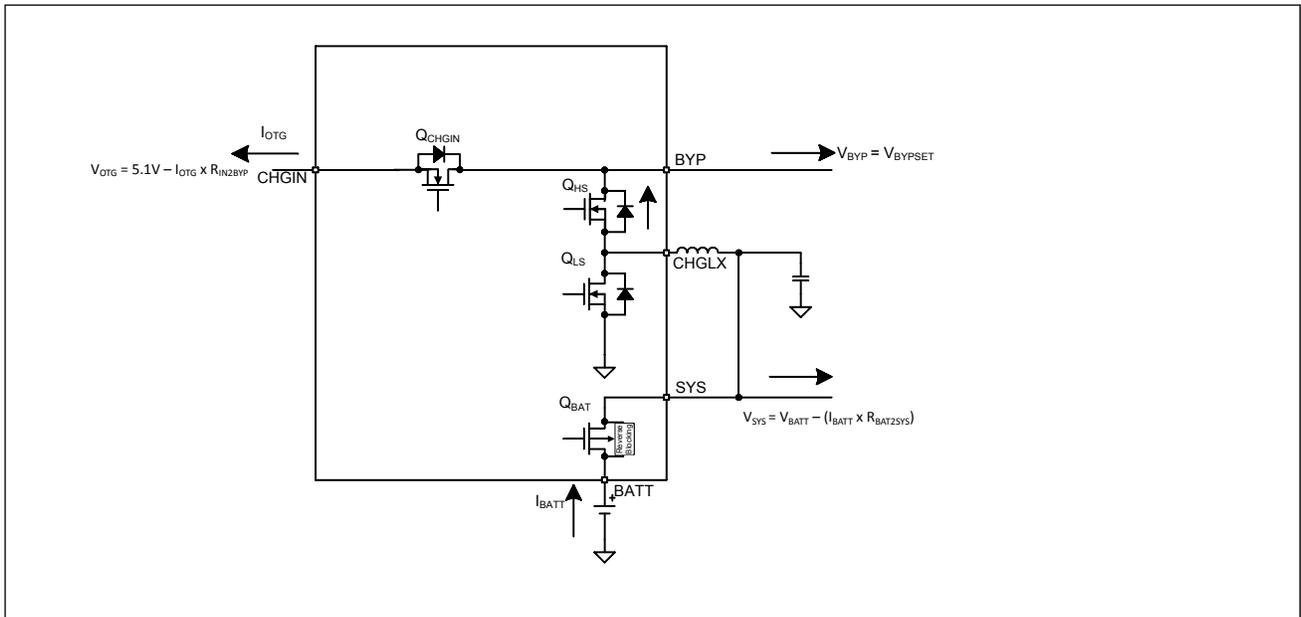

Figure 7. Battery-Boost (OTG)
4. BATTERY-BOOST (OTG), MODE = 0x0A: OTG is active ($Q_{CHGIN} = \text{on}$). Battery is connected to support SYS and OTG loads ($Q_{BAT} = \text{on}$) and charger is operating in boost mode (boost = on), see Figure 7.